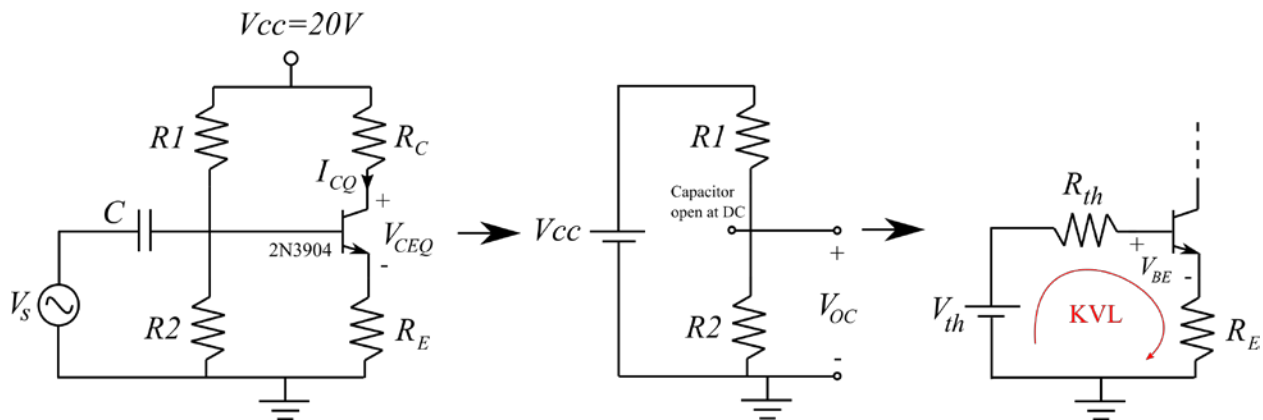

Figure 2: The equivalent circuit of the input bias circuit.
- Referring to Figure 2, set R_{th} to $\frac{(\beta+1)}{10} R_E$ and calculate the values of R_1 and R_2 . Select the nearest standard values. Recalculate the value of I_C . (This will be design #1, but also your bias design for Experiment #5.)